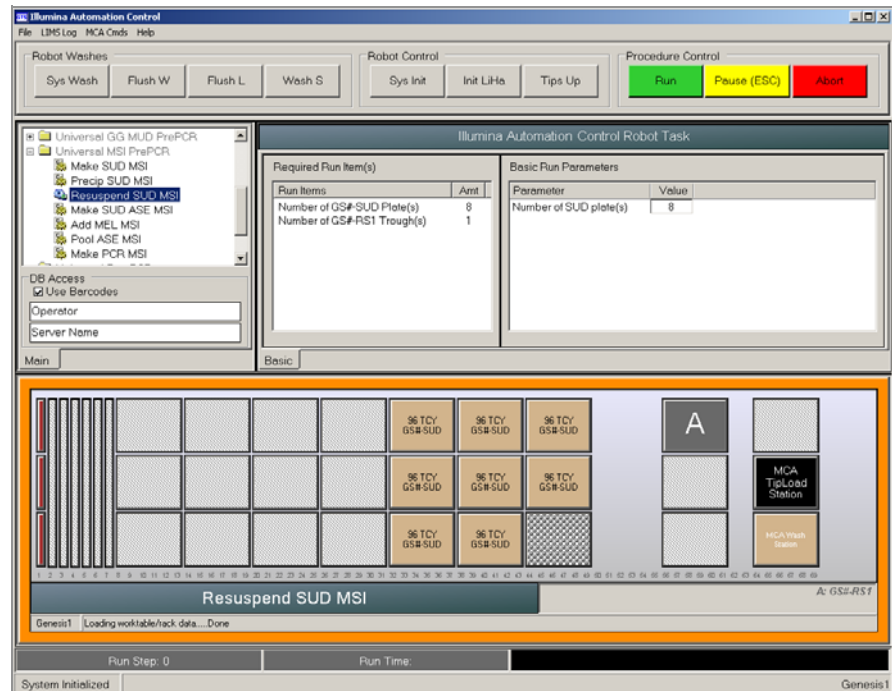

Figure 19 Universal MSI PrePCR | Resuspend SUD MSI
1. From the robot PC, select **Universal MSI PrePCR | Resuspend SUD MSI** (Figure 19).